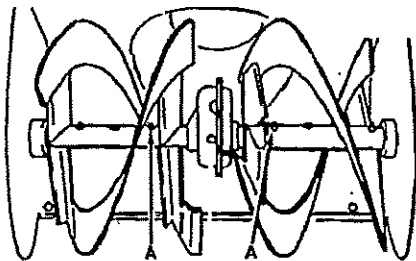

FIG. 1-MAINT
- Auger Shaft - Using a hand grease gun, lubricate the auger shaft zerk fittings (See **A, FIG. 1-MAINT**) every ten (10) operating hours. Each time a shear bolt is replaced (See **To Replace Auger Shear Bolt** in the **Service and Adjustment** section), the auger shaft **MUST** be greased.